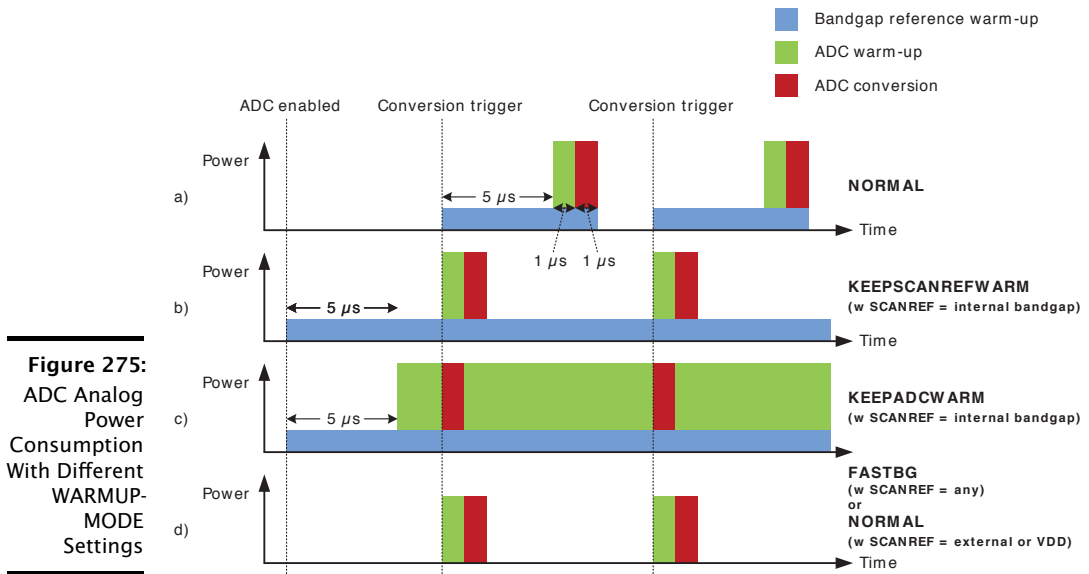

Figure 275:
Normally, the ADC will be warmed up only when samples are requested and is shut off when there are no more samples waiting. However, if lower latency is needed, configuring the WARMUPMODE field in $ADCn_CTRL$ allows the ADC and/or reference to stay warm between samples, eliminating the need for warm-up. Figure 275 shows the analog power consumption in scenarios using the different WARMUPMODE settings.
- ▶ **NORMAL:** ADC and references are shut off when there are no samples waiting. a) in Figure 275 shows this mode used with an internal bandgap reference. Figure d) shows this mode when using VDD or an external reference.
- ▶ **FASTBG:** Bandgap warm-up is eliminated, but with reduced reference accuracy. d) in Figure 275 shows this mode used with an internal bandgap reference.
- ▶ **KEEPSCANREFWARM:** The reference selected for scan mode is kept warm. The ADC will still need to be warmed up before conversion. b) in Figure 275 shows this mode used with an internal bandgap reference.
- ▶ **KEEPADCWARM:** The ADC and the reference selected for scan mode is kept warm. c) in Figure 275 shows this mode used with an internal bandgap reference.